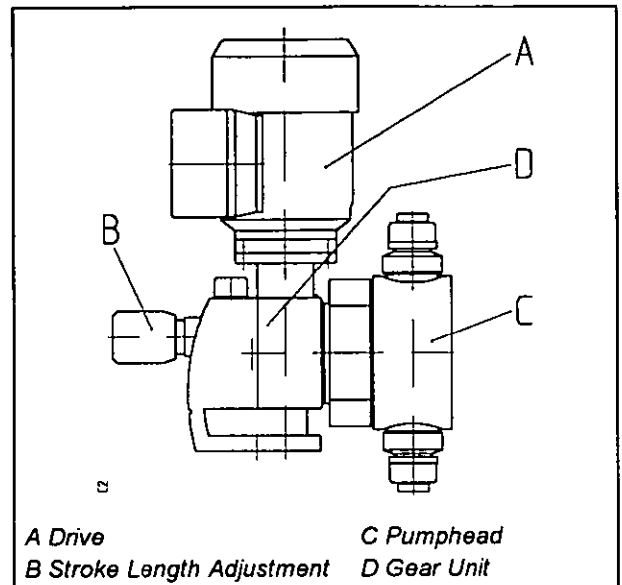

Fig. 2.1: Metering Pump
The metering pump is a reciprocating positive displacement pump. Basic components are the drive (A), the stroke length adjustment (B), the pumphead (C), and the gear unit (D) (Fig. 2.1). The functions of the components are described in section 3 (Assembly Groups).